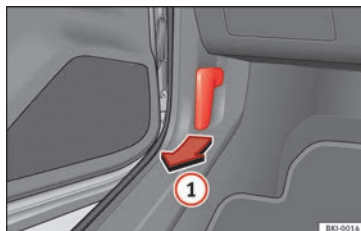

Fig. 7 Release lever in the driver's footwell area.
- Open the door and pull the lever under the dashboard » Fig. 7 ①.